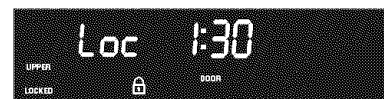

Figure 1
2. After 3 seconds a beep will sound, "DOOR", "LOCKED" will flash and "Loc", "UPPER" and  will appear in the display (Figure 1). Once the oven door is locked the "DOOR" and "LOCKED" indicator will stop flashing and remain in the display. Allow 15 seconds for the oven door to lock.